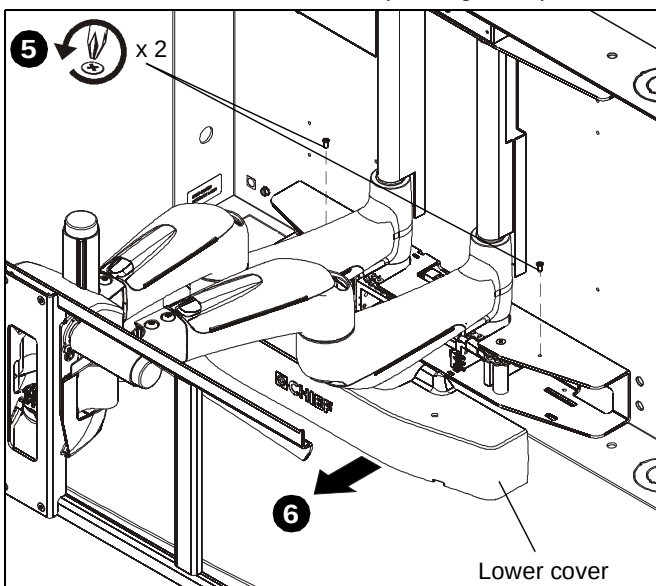

Figure 20
- Remove and save two screws from lower cover. (See Figure 20)
6. Remove and save lower cover. (See Figure 20)